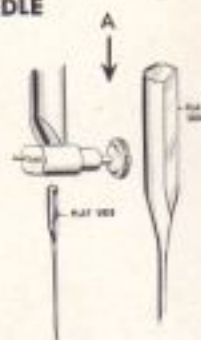

Fig. 4
b. Loosen needle clamp by loosening needle clamp screw (A) and insert new needle (with flat side of the needle shank toward the right) into groove of needle bar (Fig. 4).